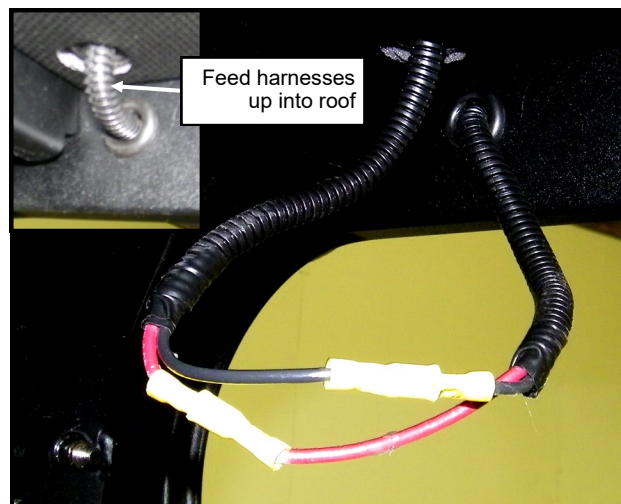

Figure 8.1: Side Frame and Roof connection
- 8.1 Connect the bullet terminals from the frame wire harness to the roof wire harness, and push the harnesses up into the roof panel until none of the terminals are visible (**Figure 8.1**).